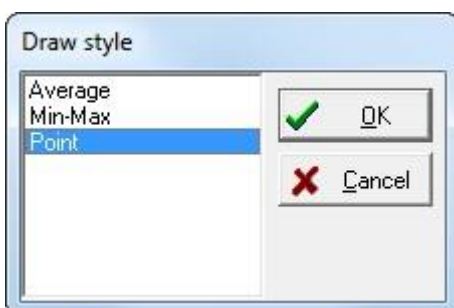

Fig. 27 Draw style.
- **Style** is used to set Draw Style (Fig. 27).